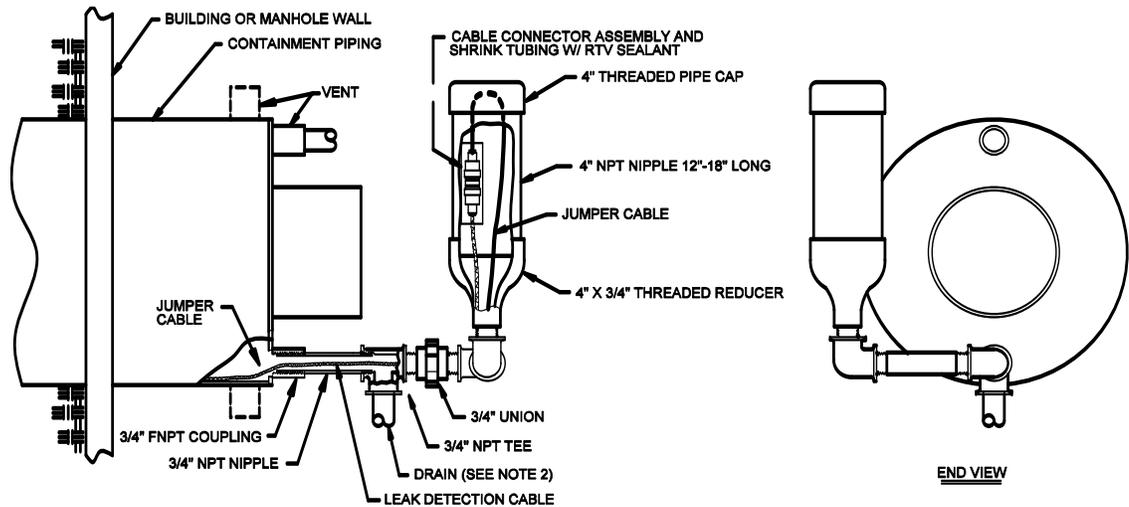

Figure 10
require simultaneously pulling both cables, and most likely will reduce the length of cables that can be pulled at one time. When 2 cables are installed in the same air space, both cables must be pulled out of the secondary containment through the threaded coupling and finally connected together with a cable connector in either: (1) a watertight capped pipe chamber connected to the threaded coupling, as shown in Figure 10 or (2) a NEMA 4X junction box. This type of termination should also be accessible to allow for future maintenance. As an alternative to pulling both cables into the air space of the secondary containment, jumper cable can be routed in electrical conduit. If connectors must be used, it is recommended that they be installed in accessible watertight NEMA 4X junction boxes located at grade.
2. All sensor cable termination chambers (see Figures 10 and 11) must be completely installed before applying the air test. Also, cap any open vents or drains. Care should be taken to prevent the pull rope or sensor cable from being blown back into the secondary containment.